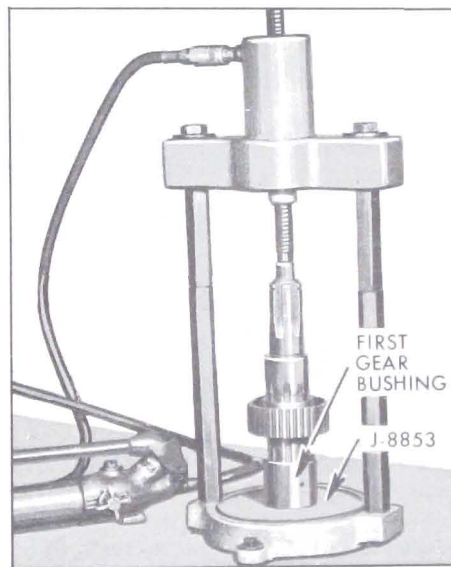

Figure 4-31—Installing First Speed Gear Bushing Using J-8853
1. From rear of mainshaft, assembly first and second speed clutch assembly to mainshaft (sliding clutch sleeve taper toward the rear, hub to the front) and using J-8853, press the first gear bushing on shaft. See Figure 4-31.